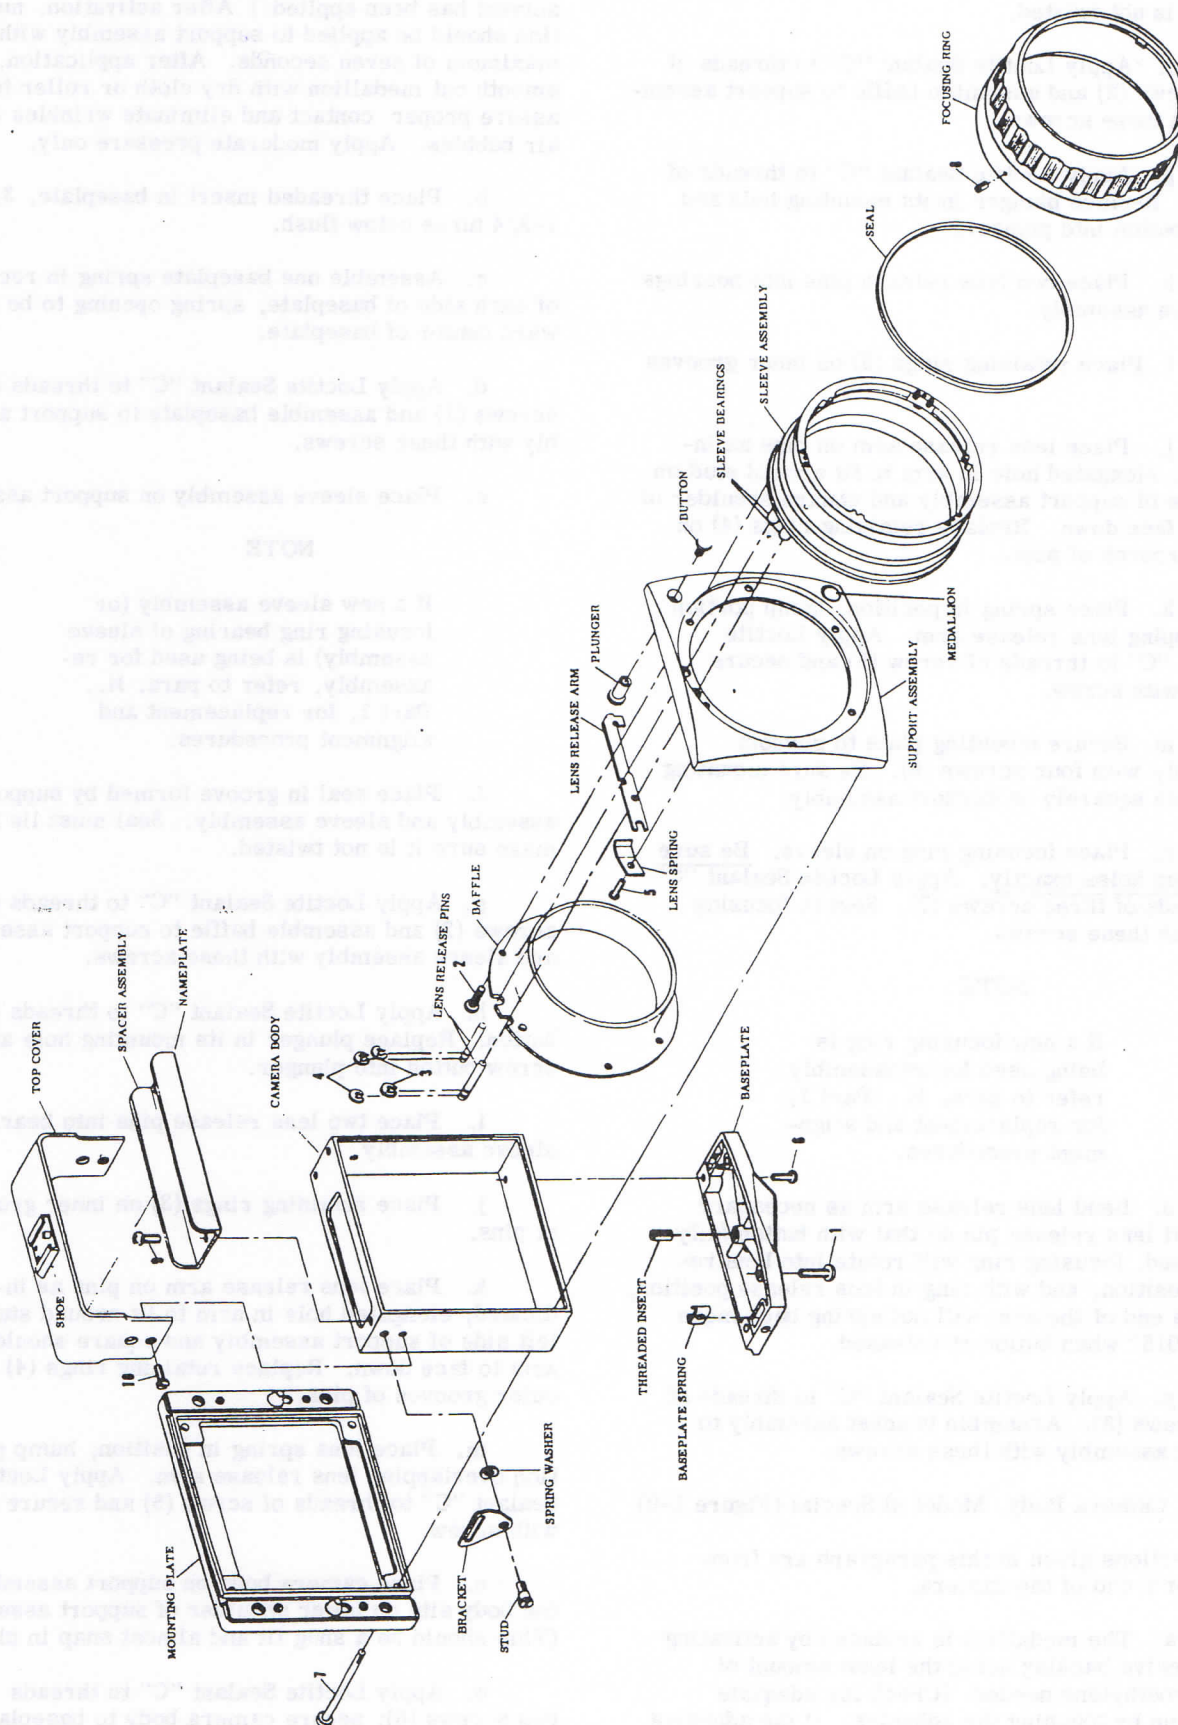

Figure 1-9. MODEL x1 SPECIAL CAMERA BODY REASSEMBLY
p. Apply Loctite Sealant "C" to threads of two screws (8). Assemble bracket assembly to support assembly with these screws.
5. Camera Body, Model xl Special (Figure 1-9)